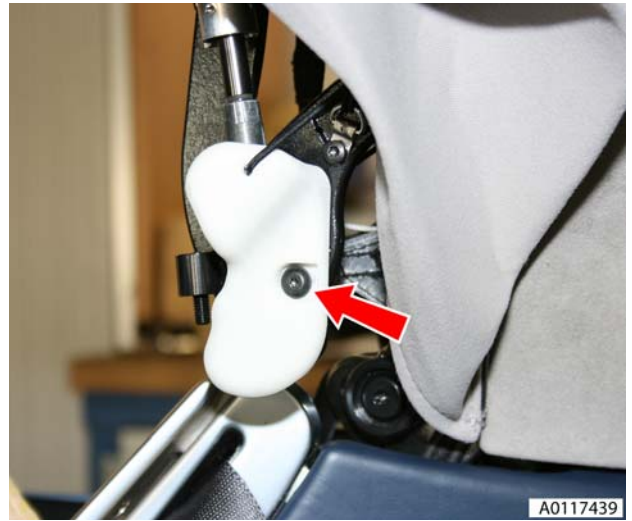

Figure 2
3. Remove lower cover (screw x1) (see Figure 2).